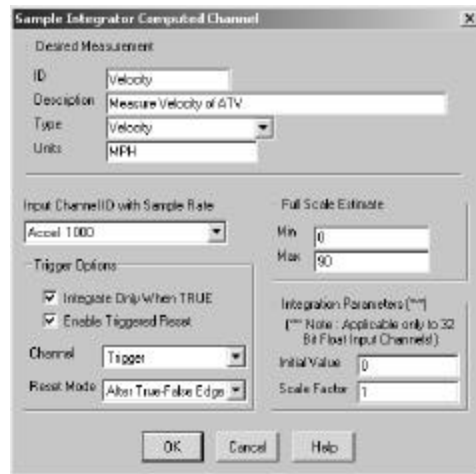

Figure 8-8: Integrator Channel Definition Dialog Box
1. Select Integrator at the Select Computed Channel Type dialog box. The Sample Integrator Computed Channel definition dialog box opens. **Figure 8-8** shows that dialog box with example data.